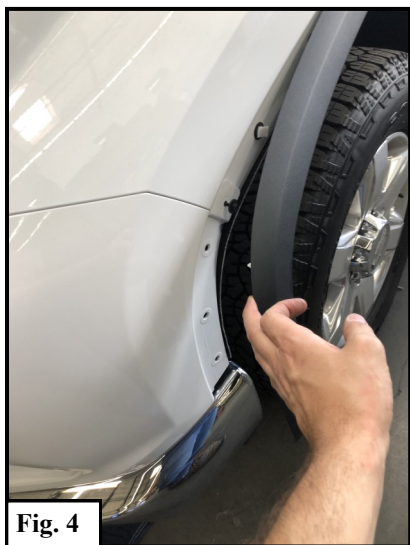

Fig. 4
5. Pry off fenders to access the filler panel clips. See **Figure 4**.